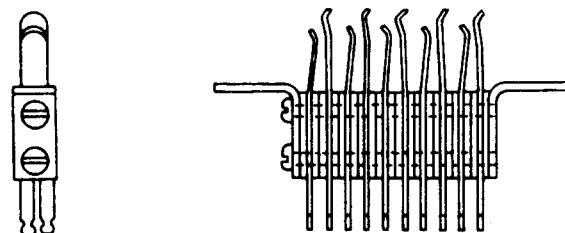

Fig. 2—354A Jack
2.02 **354:** This multicontact jack (Fig. 2) is used with the 240D plug in the test set of the rotary test circuit of Step-By-Step Dial Systems.